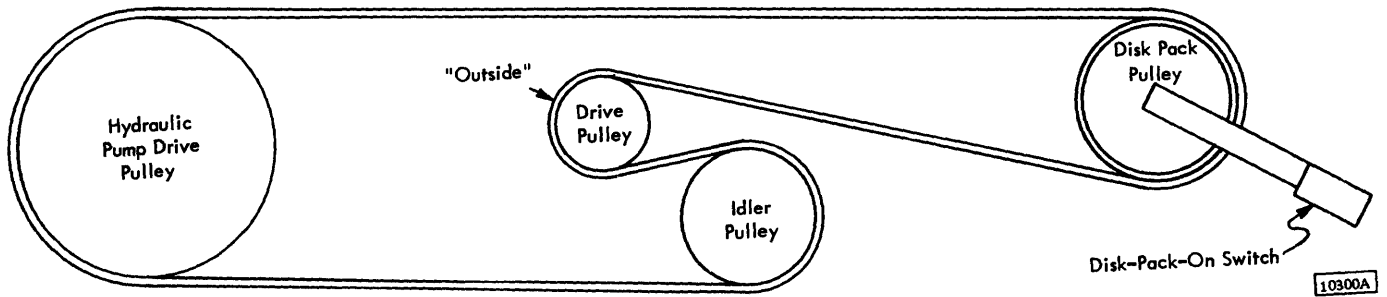

Figure 4-3. Drive Belt Threading (Bottom View)
3. Replace belt, threading as shown in Figure 4-3. When replacing the belt, make certain that the side marked "outside" is away from the drive (motor) pulley.
2. Replace belt, threading as shown in Figure 4-3. When replacing the belt, make certain that the side marked "outside" is away from the drive (motor) pulley.